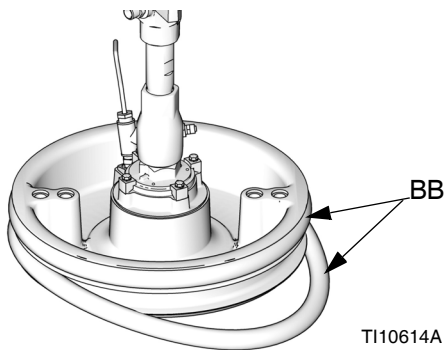

FIG. 42
1. Using a wooden or plastic tool to prevent damage to the Wiper (BB), clean all material from the seal grooves.
2. *Working from the bottom*, angle one Wiper (BB) over the back of the Platen (D). See FIG. 42.
3. Insert the Wiper (BB) in the top groove and run the front of the Wiper into the groove.
4. If using a 55 gallon Platen, insert the second Wiper (BB) in the lower groove and run the front of the Wiper into the groove.